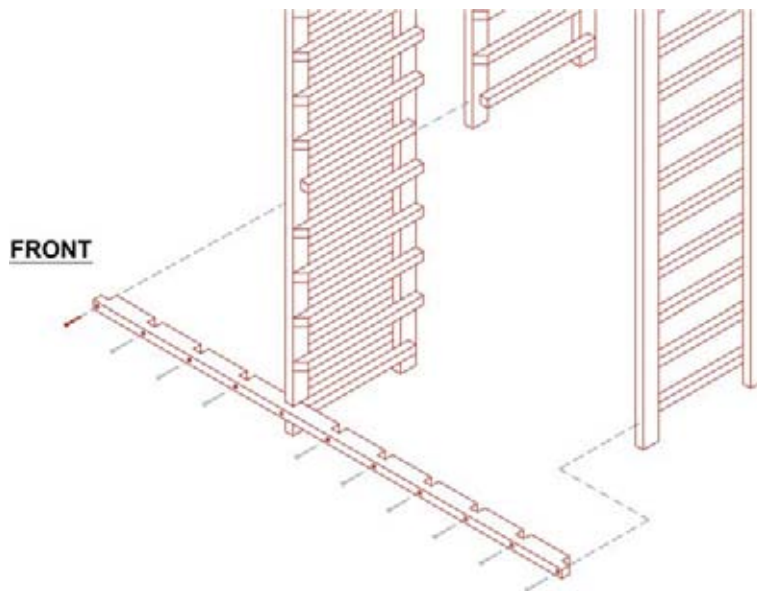

Figure 2
5. Repeat step 4 until all (9) double-sided ladders are in place.
6. Set the two single-sided ladders with the backs on the floor (angled slats facing up) and into the open end rabbet (or slot) locations (**Figure 2**). Make sure that the slat sides of the ladders face inward toward the other ladders. Align the spacer bar at the spacer slat location. ****Pre-drill through the existing screw holes on your spacer bar and into the ladder uprights. Secure both ladders with screws as before.**